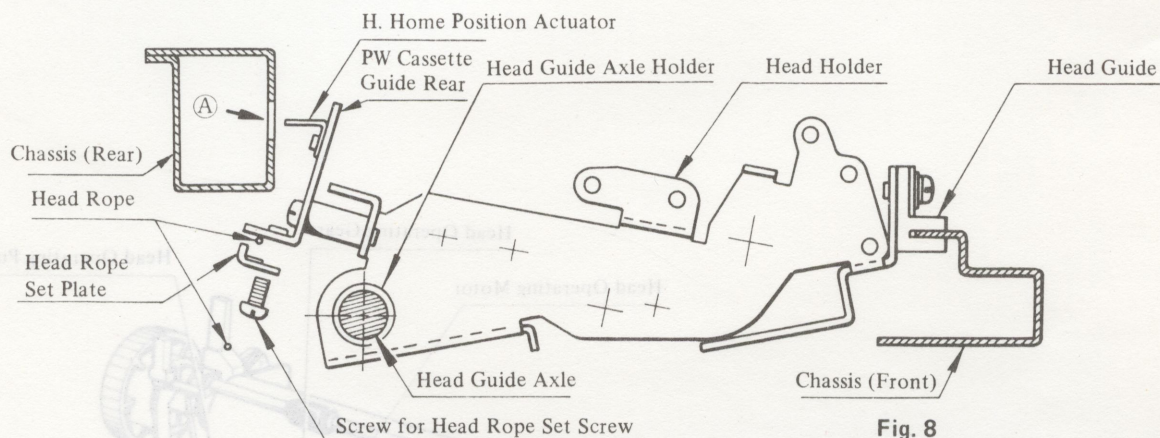

Fig. 8
- d) While lifting the print head unit, remove the head guide from the front chassis and take out the print head unit. The print head unit can be easily removed at this point by inserting head home position actuator into the hole (A) on the chassis (rear). (Fig. 8)